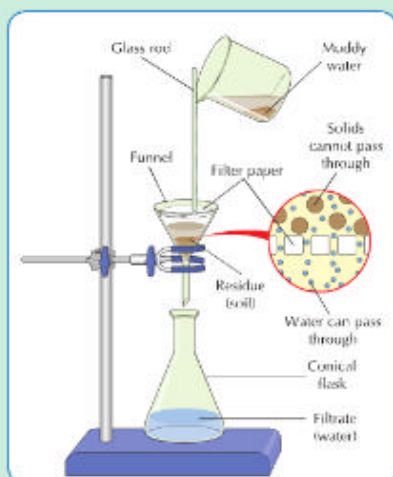

Fig. 23.3 Apparatus to separate water and soil. The soil remains behind on the filter paper. The water passes through the filter paper.
2. Rinse a filter funnel with water and place the cone of filter paper in it as shown in Fig. 23.3. Rinsing the filter funnel not only cleans it but also helps the filter paper to stick to it.
3. Set up the apparatus shown in Fig. 23.3. Carefully pour some of the mixture down a glass rod and into the filter funnel, Fig. 23.3.